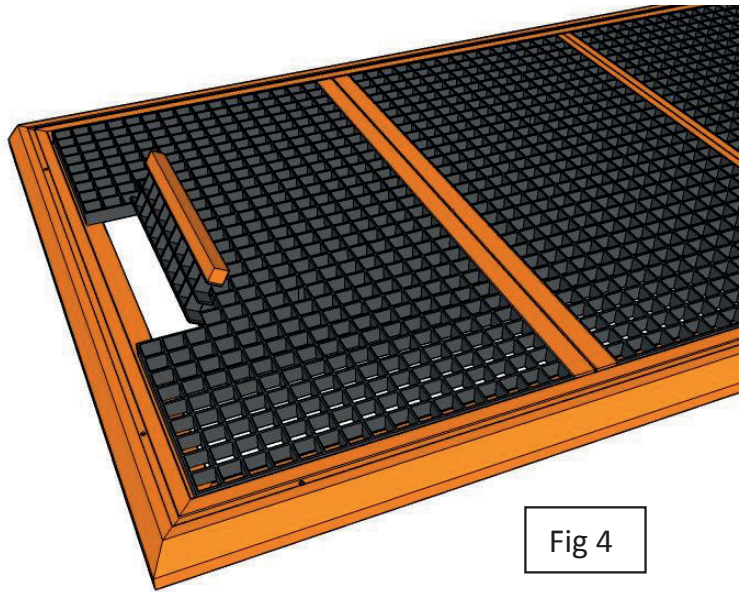

Fig 4
6. Each grille should be inserted into the frame with the non-slip rough side facing upwards and the full width aluminium bars to the middle. The smaller hinged 'flap' should then rest on the outer short edge of the frame. See Fig 4 opposite.